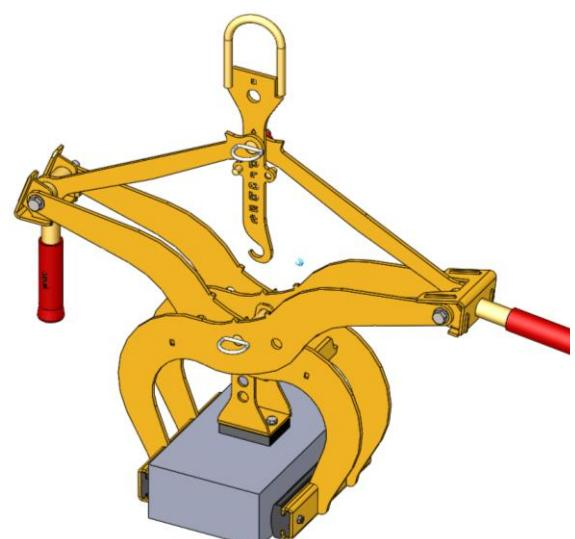

Fig.3
- The ▲ triangle markings (at the gripping arms) must be congruent (in the middle of the device) for these gripping range (Fig. 2). The ▲ triangle marking at the locking hook (2) must be positioned over the plug bolt with linchpin (8) → Fig.3.
- Remove the plug bolt with linchpin (6) or rather the plug bolt with linchpin (8), to adjust the gripping range.
- After the gripping range is adjusted, the device must be secured again with the plug bolt with linchpin (8) or rather with plug bolt with linchpin (6).
The ■ quadrate markings (at the gripping arms) must be congruent (in the middle of the device) for these gripping range (Fig. 2). The ■ triangle marking at the locking hook (2) must be positioned over the plug bolt with linchpin (8) → Fig.3